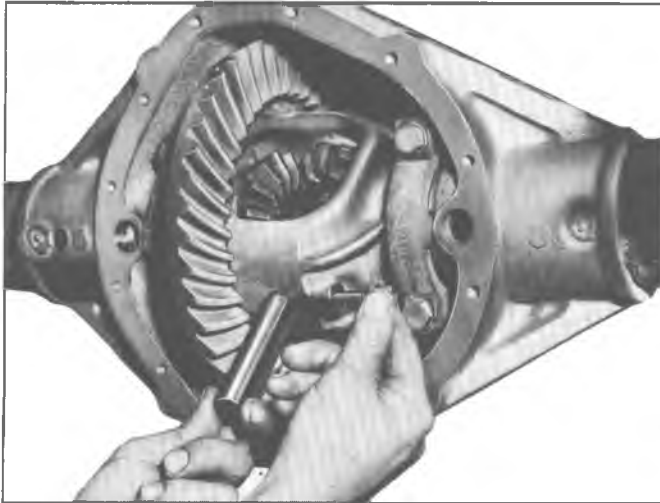

Fig. 51—Differential Pinion Shaft Removal
4. Remove the differential pinion shaft lock screw and the differential pinion shaft as shown in figure 51.